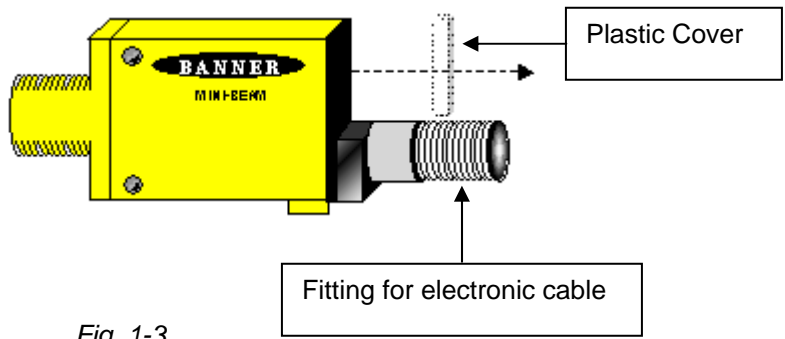

Fig. 1-3
3. Using a small flat blade screwdriver, remove the pan head screw in the plastic cover located on the sensor next to the electronic cable connection, see figure 1-3.
8. Using a small flat blade screwdriver, remove the pan head screw in the plastic cover located on the sensor next to the electronic cable connection, see figure 1-3.